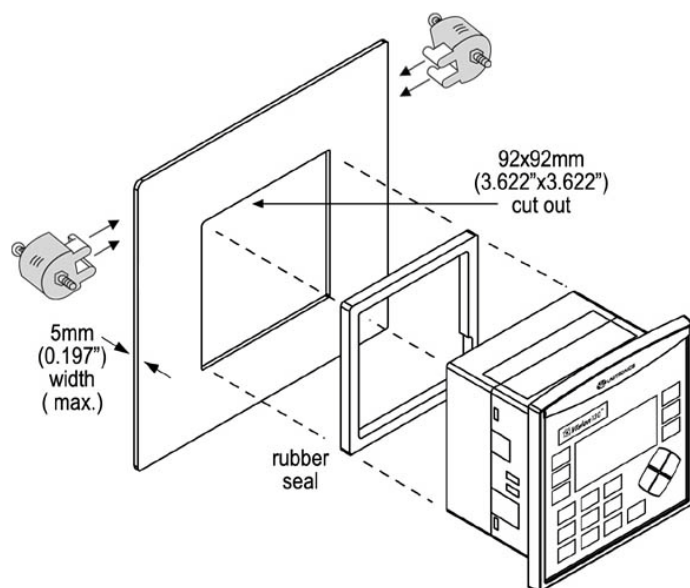

Figure B-8. Remote Relay Panel Mounting
3. Push the 2 mounting brackets into their slots on the sides of the remote relay module as shown in Figure B-8.